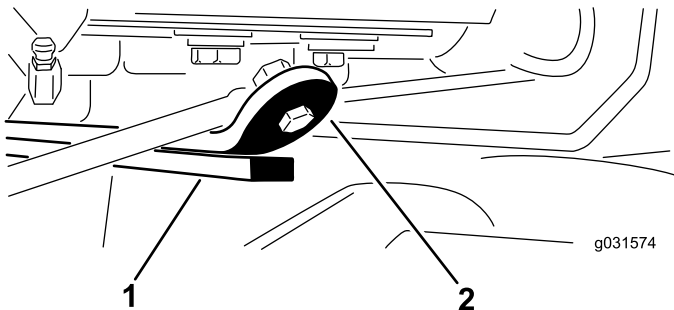

Figure 14
3. Start the engine, raise the cutting units, and ensure that the clearance between the wear strap on the top of the rear-cutting-unit wear bar and the bumper strap is 0.51 to 2.54 mm (0.02 to 0.10 inch) as shown in Figure 14.